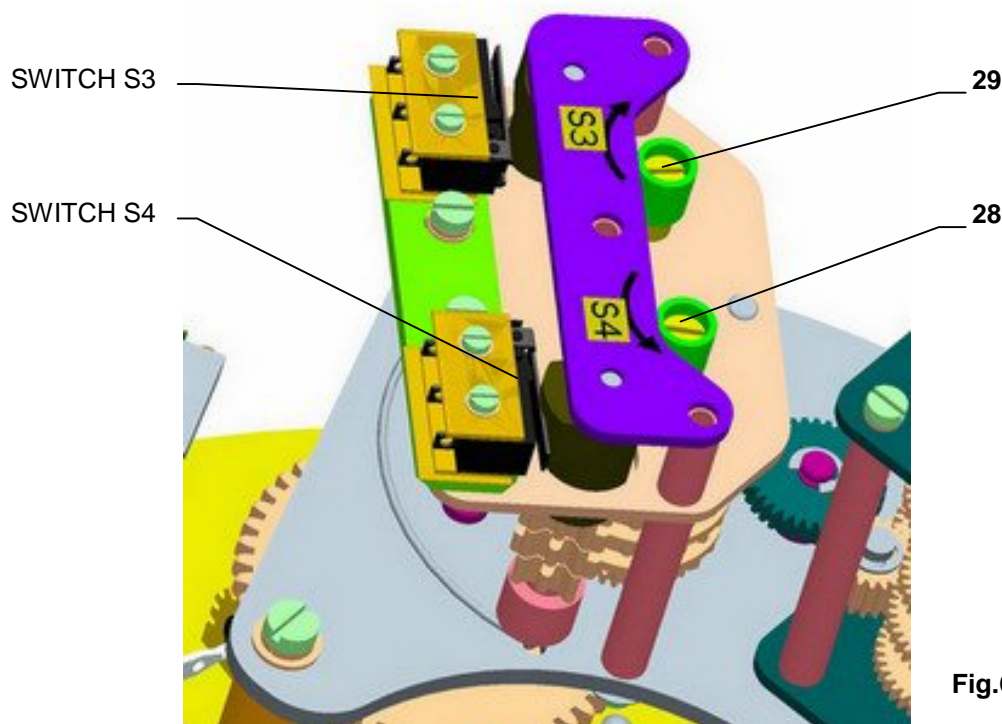

Fig.6
Check of position switches (Fig.6,8). When the actuator moves towards "close" switch over contacts of switches S4 resp. S6 by pressing of disconnecting bell of relevant switch. If the connection is properly
4.2 Position switches adjustment (S3(S13), (S4(S41) (Fig. 6)
The stroke referred on the type label of EA corresponds to the maximum stroke with the gear unit set to 11th according to table Nr.3. The procedure for position switches setting, adjustment a new setting is as follows (Fig. 6, 7):
- Move EA to the "open" position electrically or manually. If, with electric move, EA has been switched off by S3 switch (Fig. 6), insert a screwdriver into set screw (29), press it and rotate in the arrow direction until an appropriate cam opens S3 switch. Pull the screwdriver out (see notice 1) and continue in moving EA in the „open“ position.
- In the „open“ position, insert a screwdriver into set screw (29), press it and rotate in the arrow direction until an appropriate cam closes S3 switch. Pull the screwdriver out (see notice 1).
- Move EA to the "close" position electrically or manually. If, with electric move, EA has been switched off by S4 switch (Fig. 6), insert a screwdriver into set screw (28), press it and rotate in the arrow direction until an appropriate cam opens S4 switch. Pull the screwdriver out (see notice 1) and continue in moving EA in the „close“ position.
- In the „close“ position, insert a screwdriver into set screw (28), press it and rotate in the arrow direction until an appropriate cam closes S4 switch. Pull the screwdriver out (see notice 1).